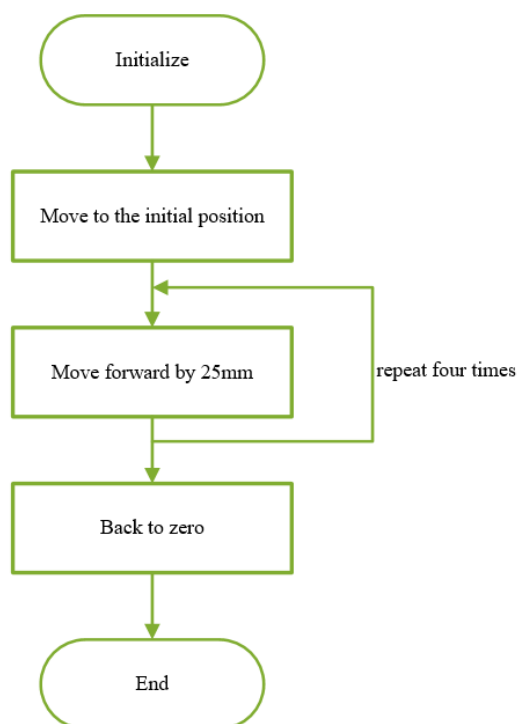

Figure 2.12 Flowchart of repeating forward motion
(1) Prepare Hardware
(2) Design Program
Step 1: According to your observation, read the flowchart showing the robot arm move forward 4 times, as shown in Figure 2.12.